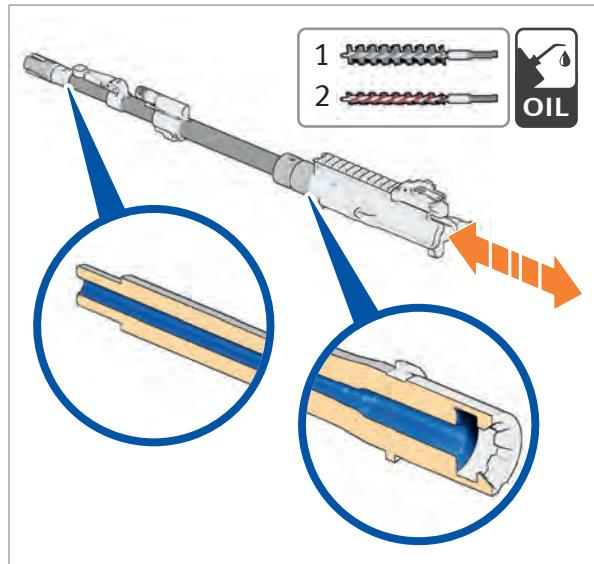

Fig. 106: Clean barrel
6. Pull oil-lubricated oil brush through barrel (Fig. 106).
13. Pull oiled barrel cleaning brush through the barrel several times (Fig. 106).